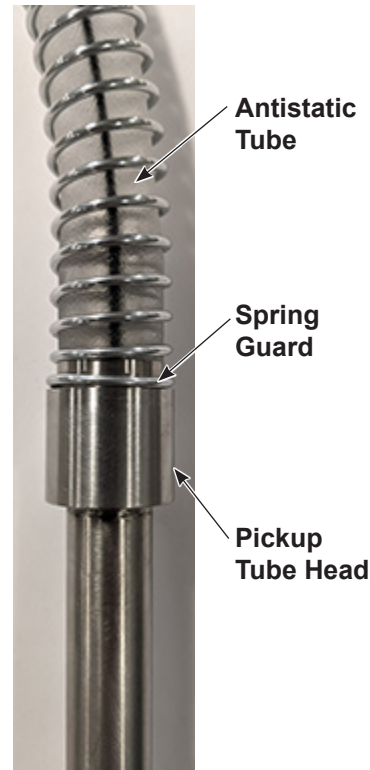

Figure 6 Assembly Pickup Tube with Spring Guard
5. See Figure 6. Bring the spring guard down and rotate clockwise over the tubing onto the pickup tube to make contact with the pickup tube head. This creates both strain relief for the tubing and grounding for the spring.